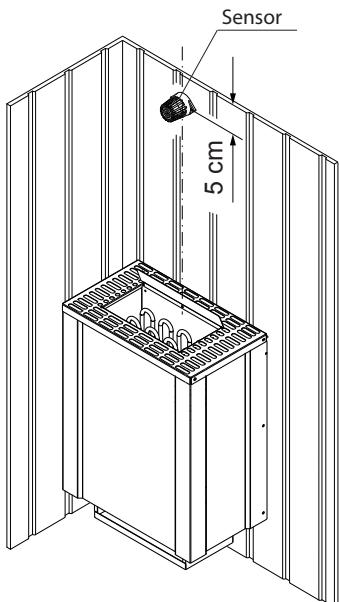

**Fig. 6**
7. Secure the heater on the sauna wall behind it using 2 screws through the holes in the rear upper edge of the heater (see fig. 5) or alternatively secure it to the side wall, as shown on fig. 6.